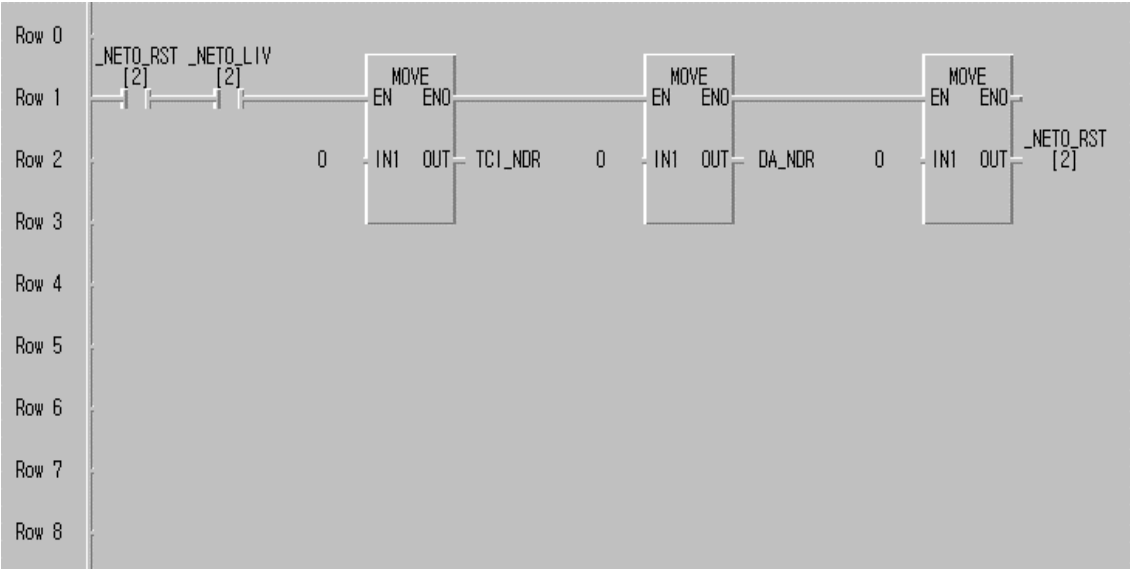

Fig. 6.6.6(B) Restart program when power failure is recovered
In Fig. 6.6.6(B), serial connection is made between _NET0_RST[2] and _NET0_LIV[2] flag to monitor other station when other station is recovered after power failure. At this time, each NDR output of initialization *function block* is cleared to perform initialization program of Fig. 6.6.6(A) again. After using _NET0_RST[2] flag, user should clear this flag as Fig. 6.6.6(B) to perform re-initialization only once and to reuse it for next power failure recovery, because this flag maintains final value until user clears it.